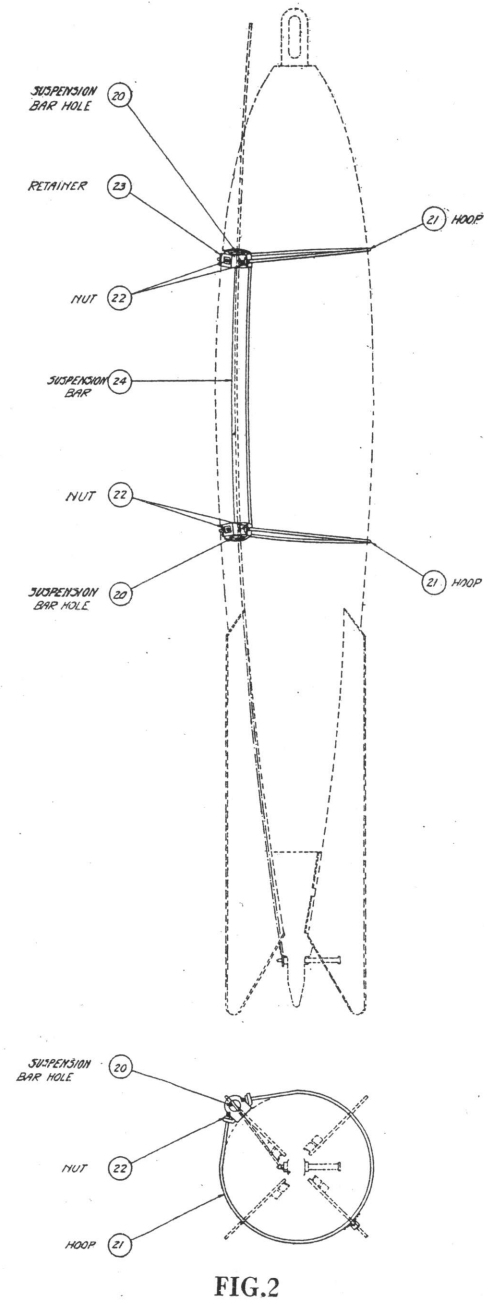
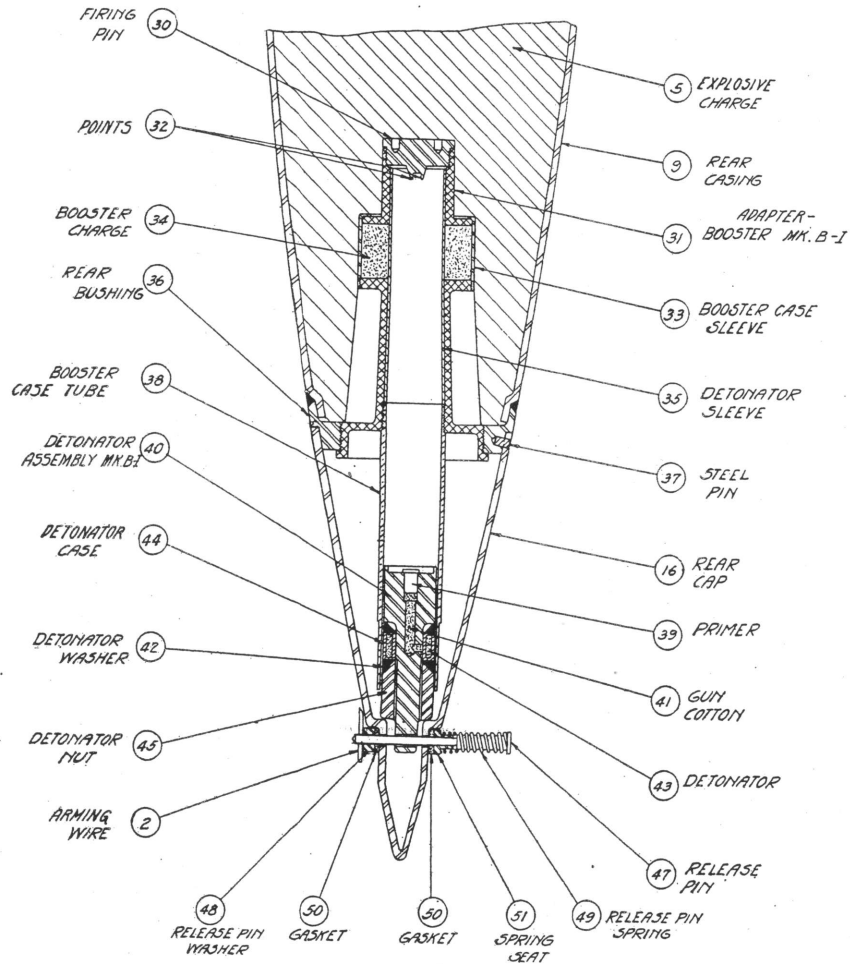

FIG. 2
FIG. 3
The 100 lb. bomb is issued with two different types of tail fuse—the bomb fuses, Marks I and III. The first 32,000 manufactured are equipped with the Mark I fuse, as shown in figure 3; in subsequent manufacture the Mark III was used exclusively. Further, the first 17,000 were not equipped with suspension lugs and must be used with belly bands, Mk. IV, as shown in figure 2.
The Mark I bomb fuse (see fig. 3) operates as follows: Upon withdrawal of the arming wire (2) the spring (49) ejects the release pin (47) and thereby liberates the detonator assembly (40). This slides down in the booster case tube (38) and seats—cushioned by trapped air—within the detonator sleeve (35) with the primer (39) resting on the points (32). Impact of the bomb causes the detonator assembly to prime itself against the points of the firing pin by momentum. The flash of the primer ignites the guncotton (41) and thereby causes the detonation of the fulminate of mercury (43) of the detonator. Since at this time the detonator is opposite the booster charge (34) the latter is detonated, causing the detonation of the explosive charge.